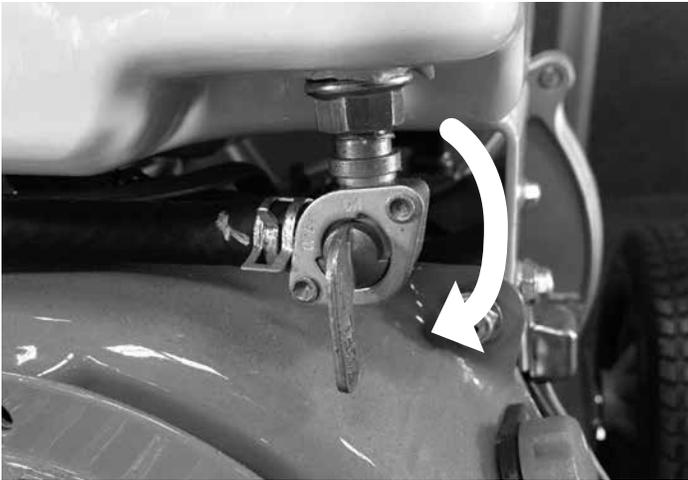

FIGURE 1
- Install the nozzle per **figure 1**.
1. Remove the nozzle by reversing the procedure in **Figure 1**.